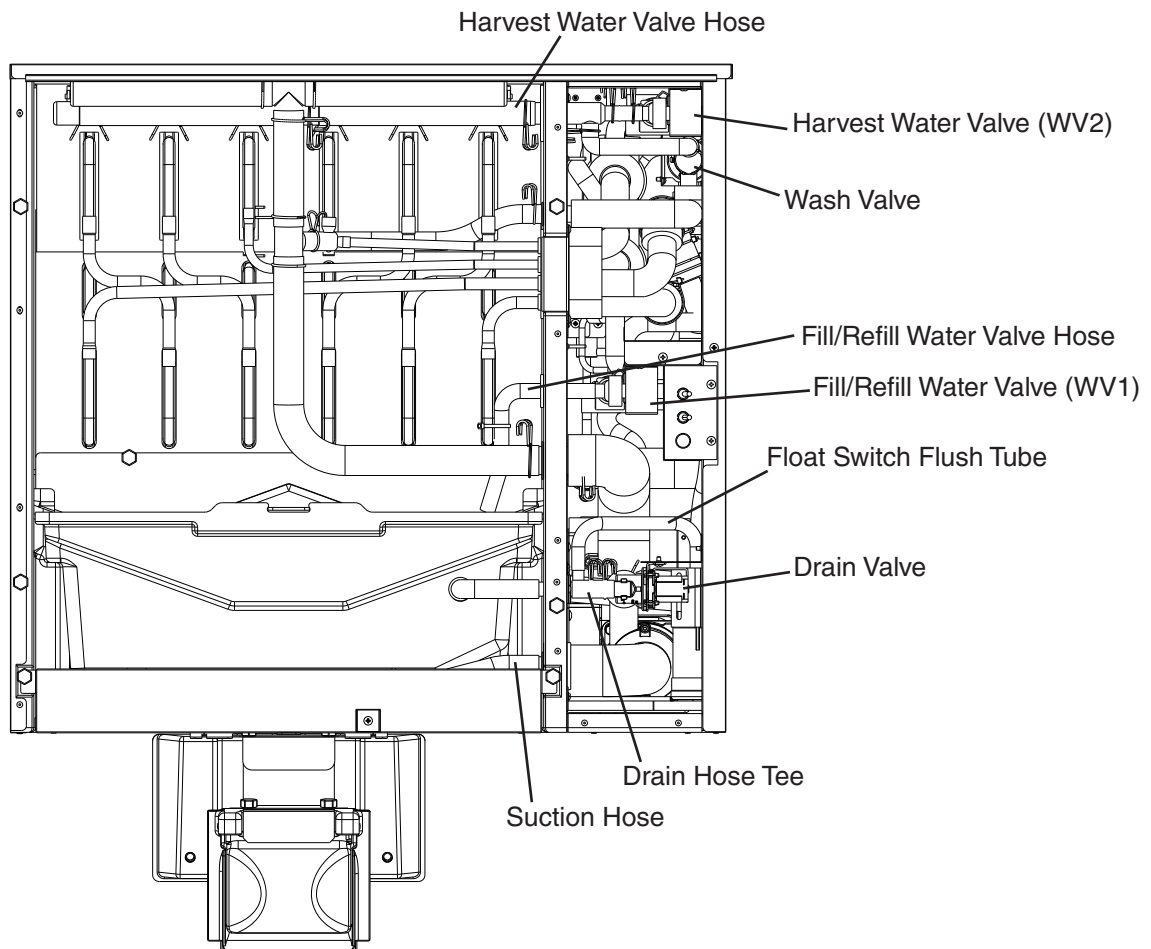

Fig. 5
- 7) Disconnect the harvest water valve (WV2) hose in the evaporator section and blow out the water line to the harvest water valve (WV2) using compressed air or carbon dioxide. See Fig. 5. This will clear water from the harvest water valve (WV2).